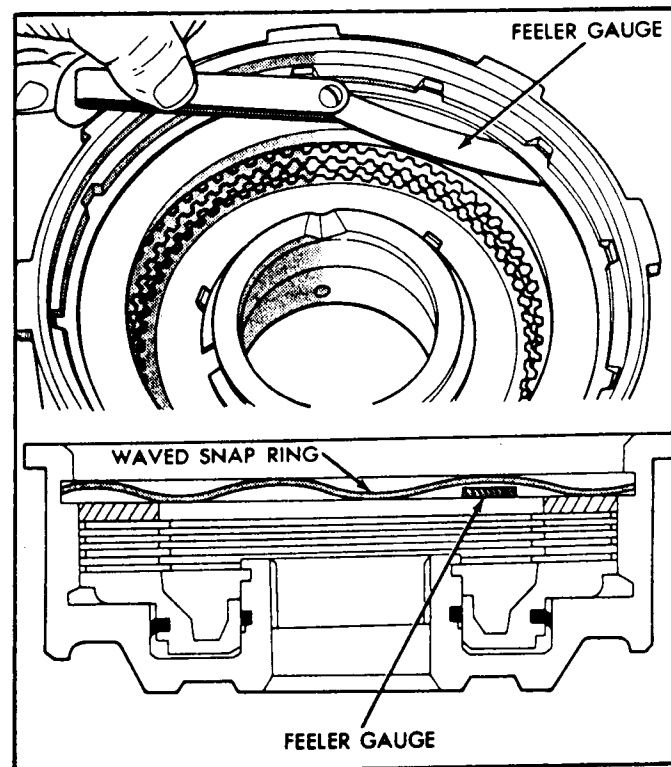

Figure 65
14. After installing pressure plate and the waved snap ring, check clutch clearance with feeler gage (Figure 65). Clearance should be .060"-.080".